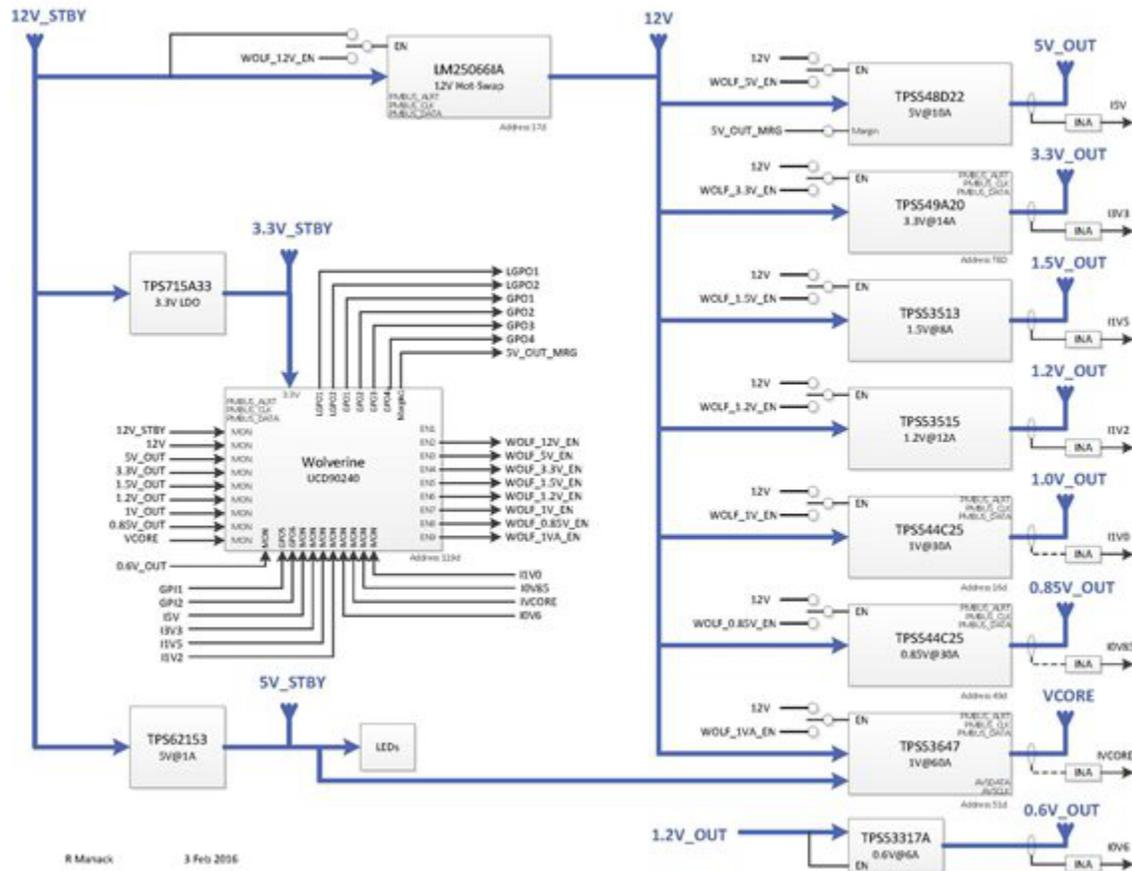

Figure 1. Complete PMBus Power System for Enterprise Ethernet Switches Reference Design Block Diagram
- As shown in the block diagram in Figure 1, there are eight voltage regulators, including a D-CAP+™ regulator, PMBus high-current multiphase power supply and DDR4 termination.